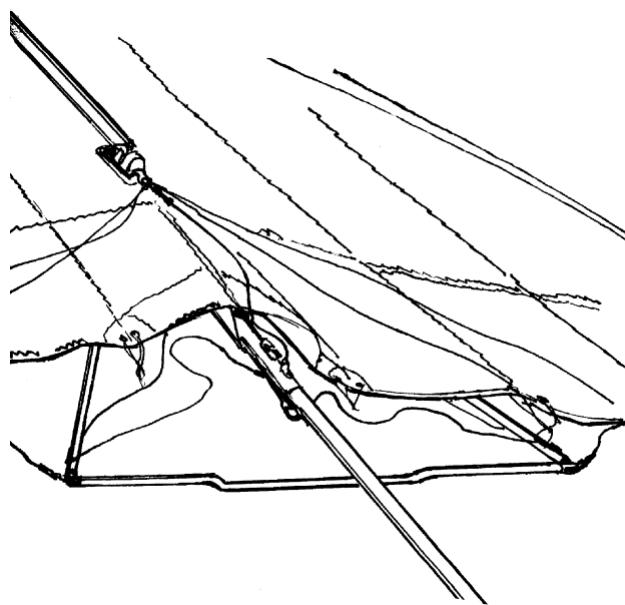

Fig. 41
2.5.2. Lay the glider on the ground nose into the wind. If the wind is more than 8 m/s (18 mph) disconnect the hook of the top rear wire, move the kingpost forward and attach the hook to the hole in the sail for the kingpost (Fig. 41).